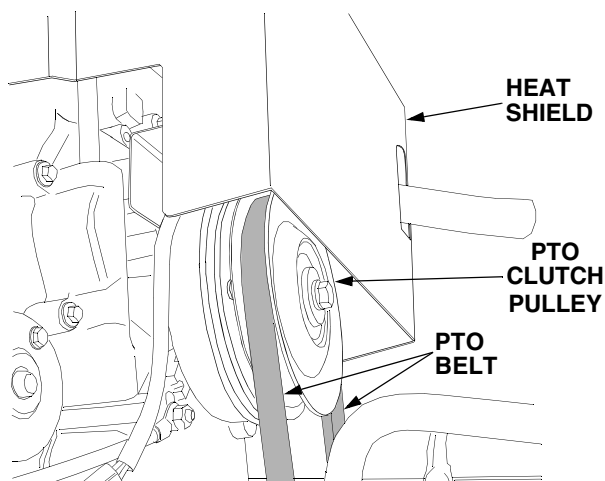

Figure 6-26
11. Loop the PTO belt with the narrow side of the 'V' belt inward; then maneuver the loop of the belt up between the front of the PTO pulley and the heat shield on the front of the engine, and place the belt into the groove of the PTO pulley. See Figure 6-26.